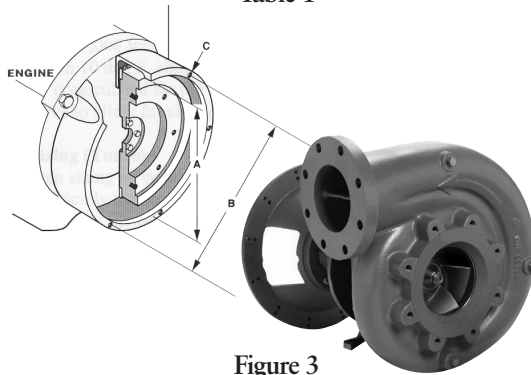

Figure 3
- These flywheels will have a recessed bore machined into the face, and a set of tapped holes, which will be used to attach the coupling to the flywheel. Dimensions are governed by an SAE standard and are listed in Tables 1A and 1B, Figure 3. The “clutch size” shown in the table is the nominal clutch facing diameter for Drive Ring Type Overcenter Clutches.